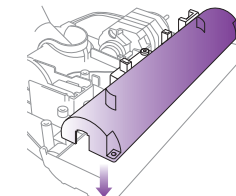

Fig. 27
- 11 Replace the rotating brush cover. (Fig. 27)